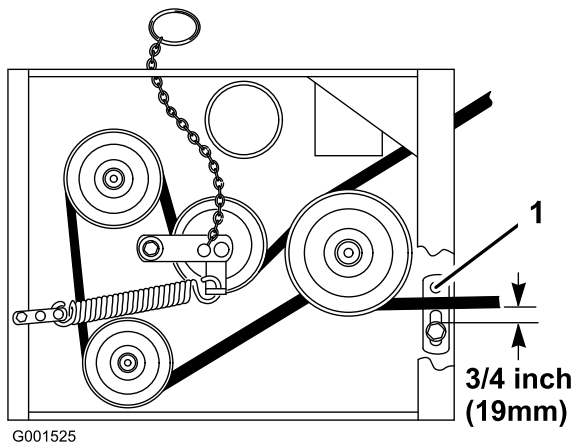

Figure 41
8. Check the belt guide under the engine frame for proper adjustment (Figure 41).
Note: The distance between the belt guide and the mower belt should be 3/4 inch (19 mm) when you engage the mower belt (Figure 41). Adjust the mower belt as necessary. The disengaged belt should not drag or fall off the pulley when the guides and belt tension are properly adjusted.